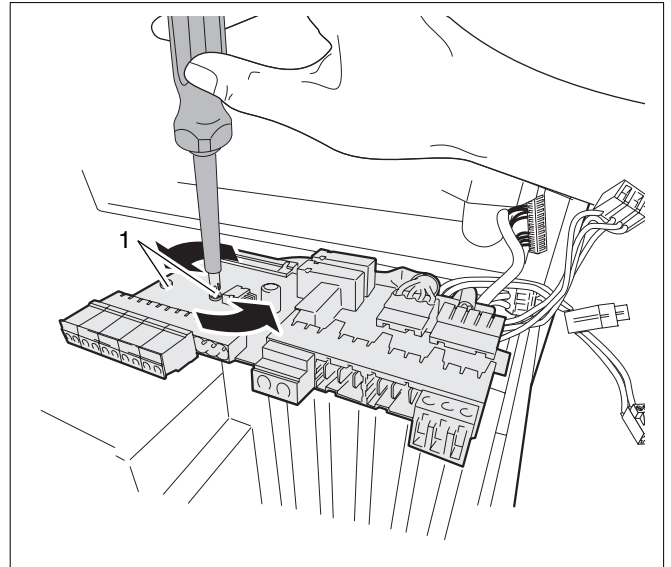

Fig. 96 Loosening the fastening screws
- Loosen the 2 external connection board fastening screws (see fig. 96, pos. 1).